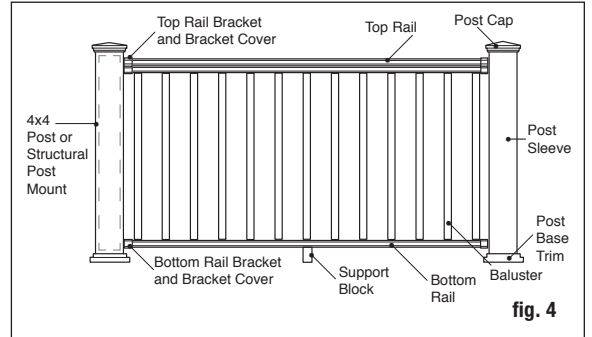

fig. 4
Step 5 Trim 4x4 post sleeves to length. Post sleeves should be a minimum of 2" longer than the railing height (fig. 4). Example: For a 36" high railing, trim post sleeve to a minimum of 38", can be left longer if desired. Slide a trimmed post sleeve over each 4x4 railing post or post mount. Post sleeve should slide easily over the post. **DO NOT FORCE** post sleeve onto post. Twisted or crooked 4x4s should be replaced. Slide a post base trim (optional) over each post sleeve for a finished look. *Note: It is recommended to install the post base trim prior to installing the bottom rail. However, the two-piece design does allow the installer to add the post base trim after the rail has been installed. To install, apply a thin line of clear exterior construction adhesive to the inside of the post trim, where it will contact the post sleeve, and snap into place around the base of the post sleeve.*